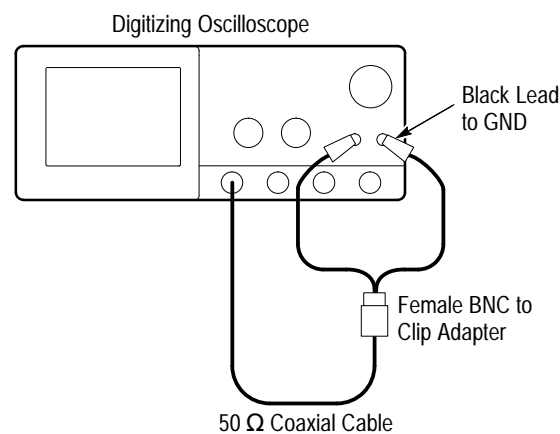

Figure 4–21: Initial Test Hookup
- Connect one of the 50  $\Omega$  cables to **CH 1**. See Figure 4–21.
- Connect the other end of the cable just installed to the female BNC-to-clips adapter. See Figure 4–21.
- Connect the red clip on the adapter just installed to the **PROBE COMPENSATION SIGNAL** on the front panel; connect the black clip to **PROBE COMPENSATION GND**. See Figure 4–21.